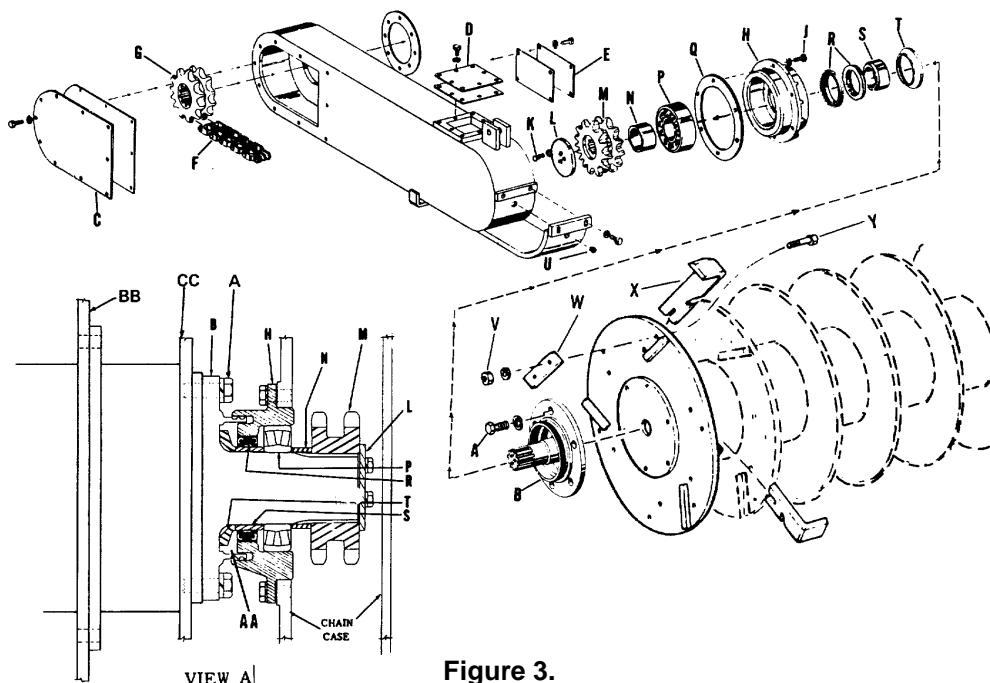

Figure 3.
REMOVAL OF ROTOR FROM END DRIVE CHAIN CASES (Fig. 3, View 4)
DISASSEMBLY AND ASSEMBLY OF THE END DRIVE CHAIN CASE (Fig. 3)
7. Disassembly of bearing housing assembly Remove lock plate (L) by removing three cap screws (K). Pull sprocket (M) off end shaft. Remove spacer (N). Pull housing (H) with bearing (P) and oil seals (R) off end shaft (B). Remove spacers (S) and (T). Seals (R) and bearing (P) may now be removed from housing. Note that the seal lips face opposite each other. Inspect and replace worn or damaged parts. Soak new seals in oil before assembly.
8. Assembly of bearing housing material Place end shaft (B) on bench with shaft end up. See view "A" of figure 3. Slip spacer (T) on shaft and follow with spacer (S) with chamfer of spacer facing splines. Before proceeding, hand pack cavity "AA" with chassis grease to prevent dirt from entering this area which may cause seal and/or bearing failure. Press seals (R) into housing (H) with the seal lips facing opposite each other, then assemble housing on end shaft being careful not to rupture seals on the spacer. Follow with bearing (P), spacer (N), sprocket (M) with lock plate and cap screws. Thread wire thru cap screw holes and tie.
CHAIN ADJUSTMENT, END DRIVE CASE (Fig. 3)